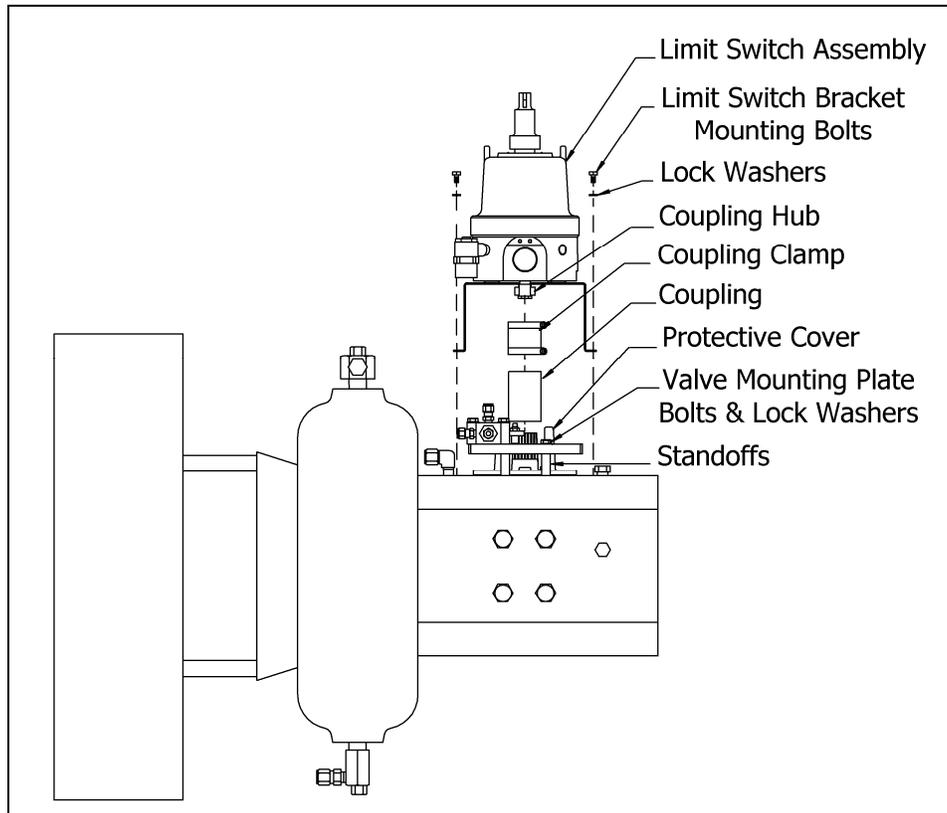

Figure 7: Install Limit Switch Assembly
13. Slide the Limit Switch Drive Coupling over the center post on the Protective Cover (see Figure 7).